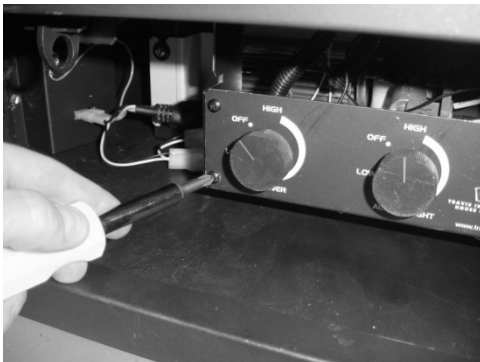

Figure 2
- 2 Unscrew the four screws holding the control cover in place (see Figure 2). Carefully remove the control cover (see Figure 3)